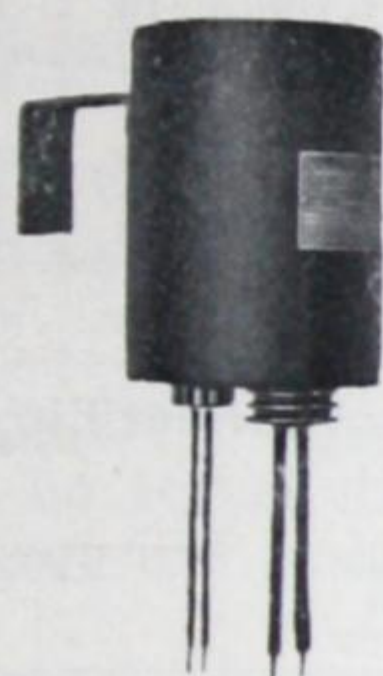

Fig. 9
practical mechanic or lineman (see Fig. 9). Taped joints from the underground cable to the primary wiping sleeve are not recommended on this type of transformer.
2. Crossarm hangers can be furnished instead of lugs on aerial-type transformers at an addition of \$3.50 to list price; see Fig. 9. Specify thickness of crossarm, standard sizes 3 1/4 in., 3 1/2 in., 3 3/4 in.